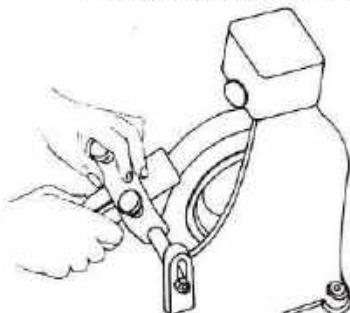

Fig.287 GRINDER
1. Adjust the tool rest to the required angle and grind the bevel until it is true, straight and at right angles to the side of the iron. Move the iron back and forth across the face of the stone while grinding. Make sure the blade is frequently cooled down in a small water container which must be fixed to the grinder. Fig.287